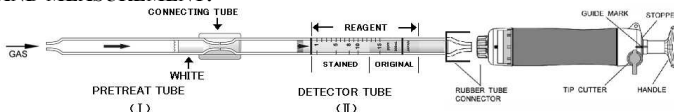

Fig.1
- ① Break both ends of the detector tube (II) and pretreat tube (I), and connect each end of the detector tube and pretreat tube with connecting tube as shown in Fig.1.
- ② Insert the detector tube into the aspirating pump securely as shown in Fig.1. (Arrow marks shall point to the pump.)
- ③ Align the guide marks on the shaft and stopper of the aspirating pump.
- ④ Pull the pump handle at a full stroke until it locks and wait for 1.5 minutes or until the completion of sampling is confirmed with the flow indicator of the pump. (See descriptions about the flow indicator in the instructions of the pump.)
- ⑤ Push back the handle without removing the detector tube from the rubber tube connector so that air in the pump will be discharged perfectly. Then repeat the step ③~④ twice more.
- ⑥ On completion of sampling, read the scale at the maximum point of the stained layer.